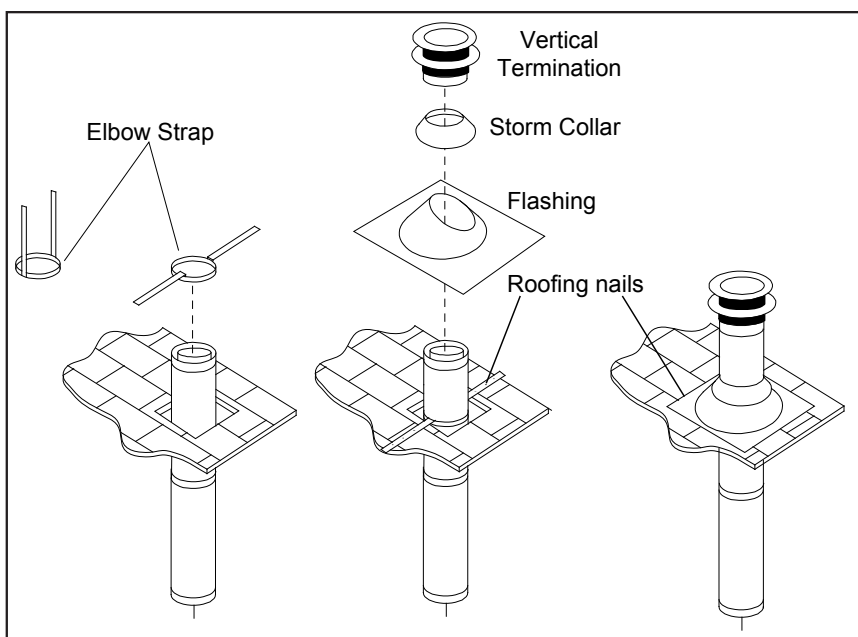

Figure 30: Vertical Vent Termination Installation.
6. Once the pipe sections have been joined, and run up through the hole in the roof, slip an elbow strap over the exposed sections, bend the support straps outwards, and push the elbow strap down to the roof level, as shown in Figure 30. Tighten the clamp around the pipe section. Use a level to make sure the pipe is truly vertical. With roofing nails, secure the
7. Slip the flashing over the pipe section protruding through the roof. Secure the base of the flashing to the roof with roofing nails. Use a non-hardening sealant between the uphill edge of the flashing and the roof. Insure the roofing material overlaps the top edge of the flashing as shown in Figure 30. Verify that you have at least the minimum clearance to combustibles at the roof line.
9. Slip the storm collar over the pipe, and push it down to the top of the roof flashing as shown in Figure 30. Use the non-hardening sealant around the joint between the pipe and the storm collar.